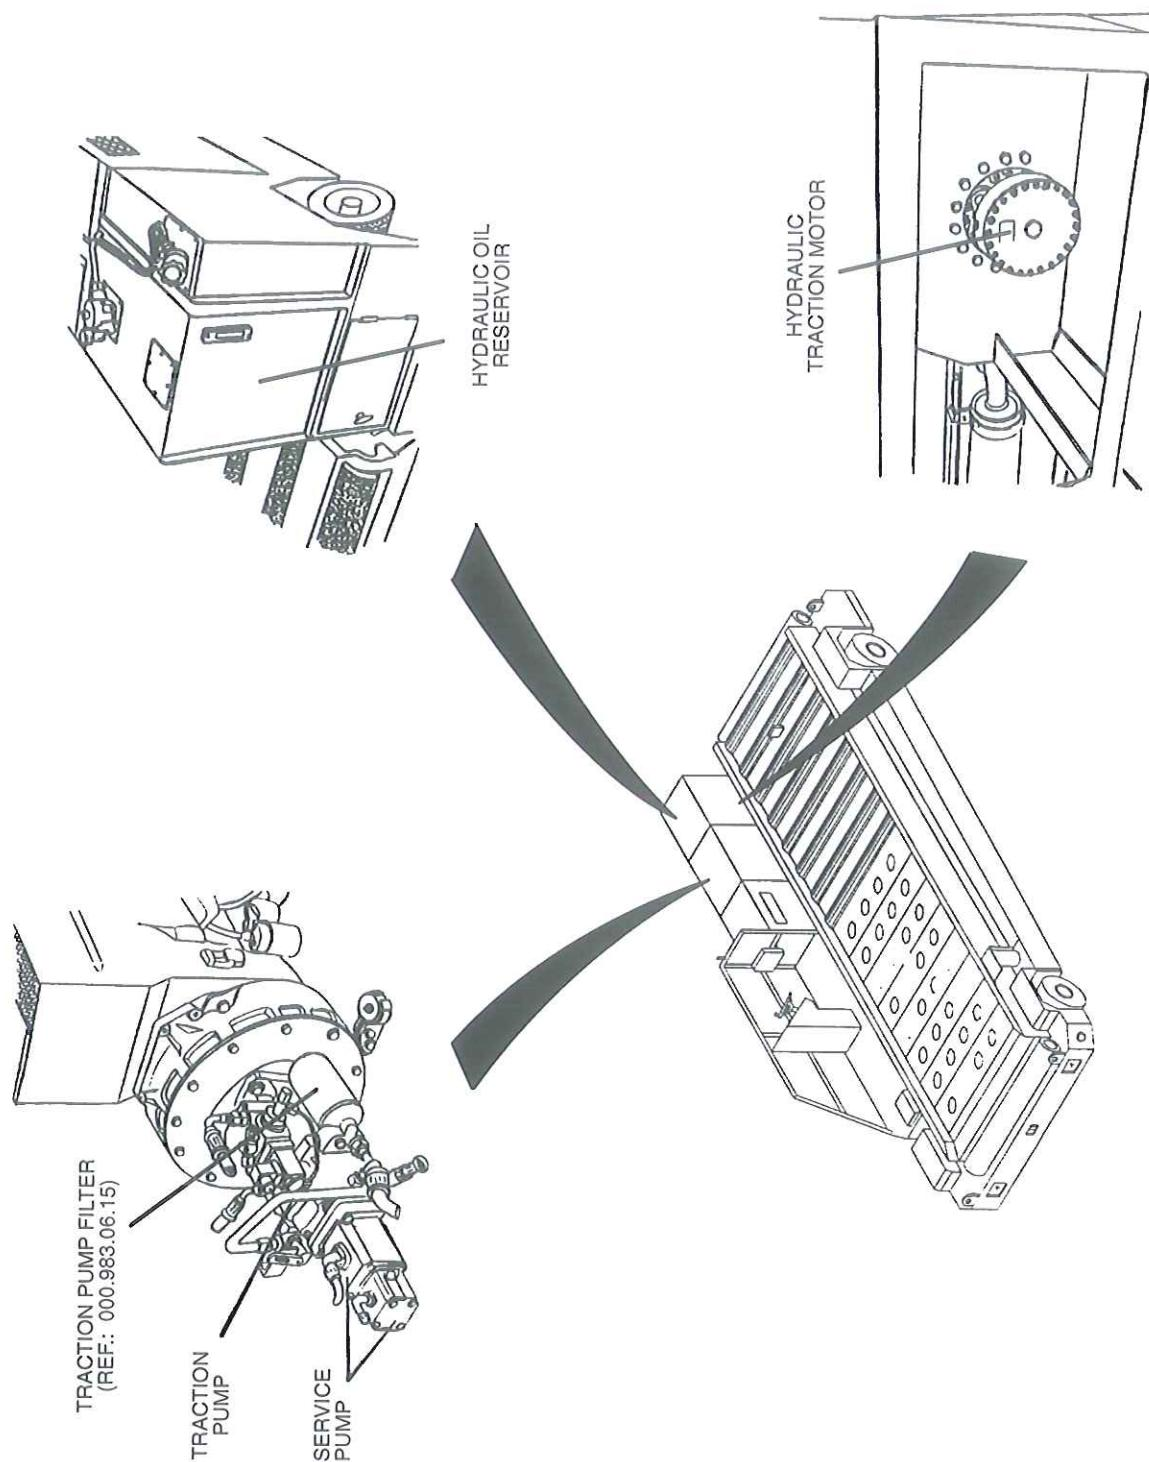

Figure 4
F. GENERAL HYDRAULIC SYSTEM (SEE FIGURE 4)